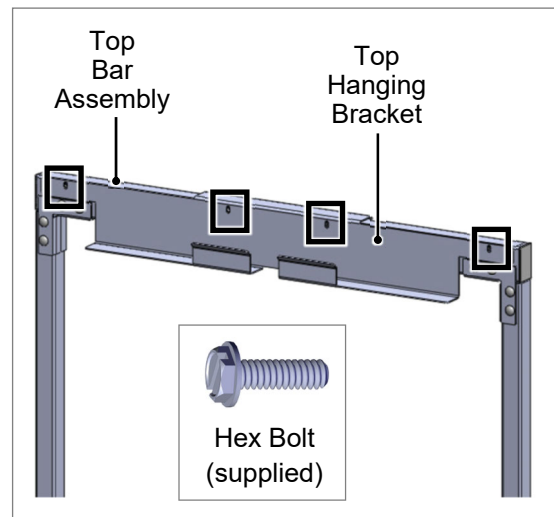

Fig 10. Attach the Top Hanging Bracket
8. Attach the Top Hanging Bracket to the Top Bar Assembly using four (4) Hex Bolts (Fig 10).